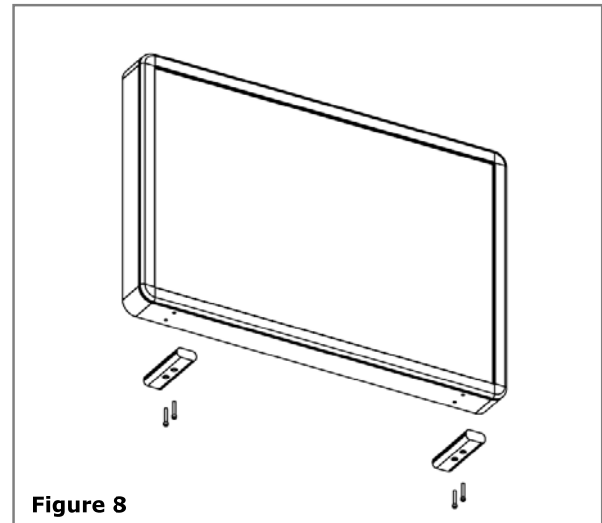

Figure 8
1. **Tabletop / Counter Option** – Aluminum feet can be ordered for this application. Please contact Stylmark at 1-800-328-2485 for more information about this option. **See Figure 8.**